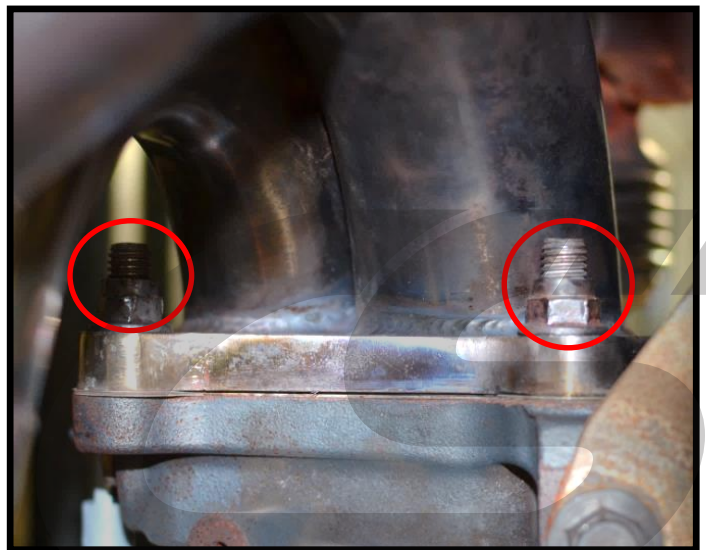

Figure 3h
- j) Remove the lower remaining two 14mm nuts from the downpipe, **circled in red** in **Figure 3h**.